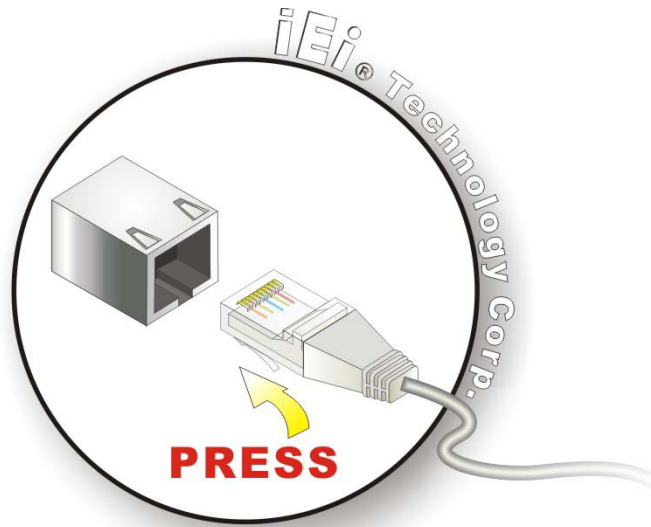

Figure 4-19: LAN Connection
Step 2: **Align the connectors.** Align the RJ-45 connector on the LAN cable with one of the RJ-45 connectors on the IMBA-G412ISA. See **Figure 4-19**.